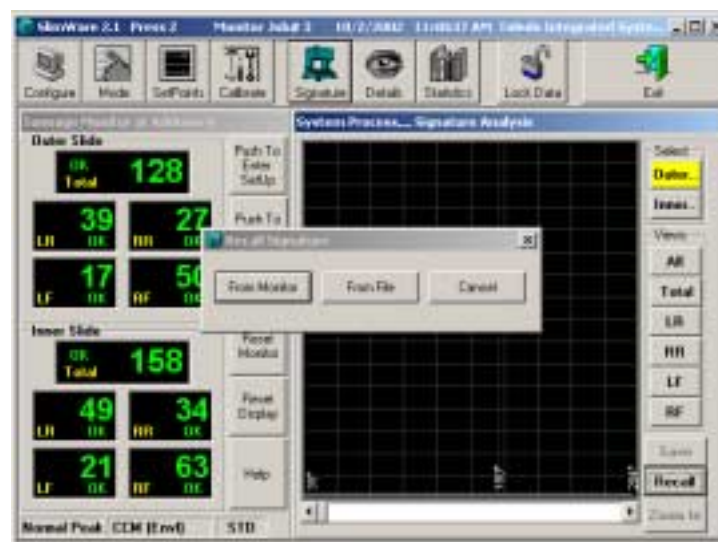

Figure 10.4 - Recall Signature Prompt Box (Select From Monitor)
- Select the **Recall** button on the System Process window. The **Recall Signature** prompt box will be displayed as shown in Figure 10.4. Click the button **From Monitor** to begin downloading a signature from the online Slim load monitor.